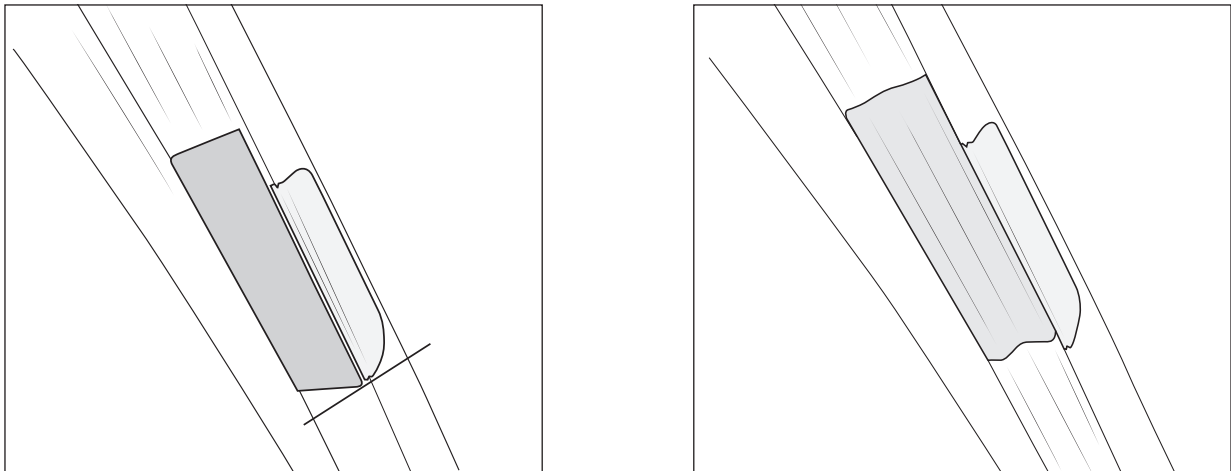

Figure 18
4. Install remaining piece of paint protection frame to door seal section of windshield frame. Align bottom edge with film on windshield frame as shown, again being careful to stick down gradually and prevent bubbles (fig. 18).